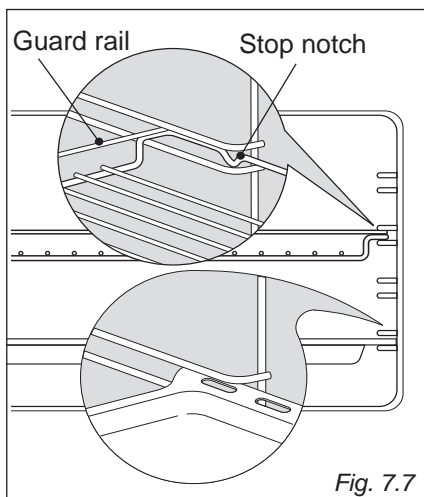

Fig. 7.7
- Slide in, on the guides, the shelf and the tray (fig. 7.7).